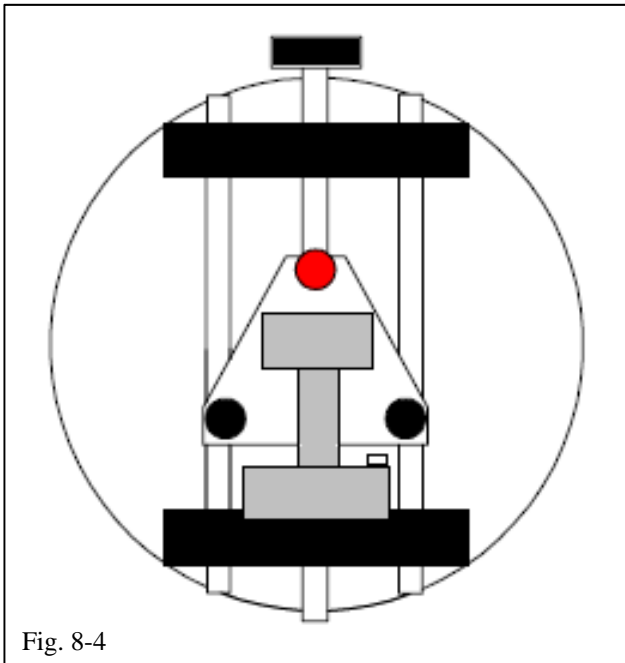

Fig. 8-4
- (4) Rotate the wheel clamp $\frac{1}{2}$ turn; the installation knob should be at the 12 o'clock position (Fig. 8-4).
- (5) Level the TL-30 and read the number on the caster scale.
- (6) Adjust the bubble to the point halfway between 0 and the current reading using the RED knob on the wheel clamp. (When making this adjustment, it is important not to move the bubble with the caster adjustment knob.)